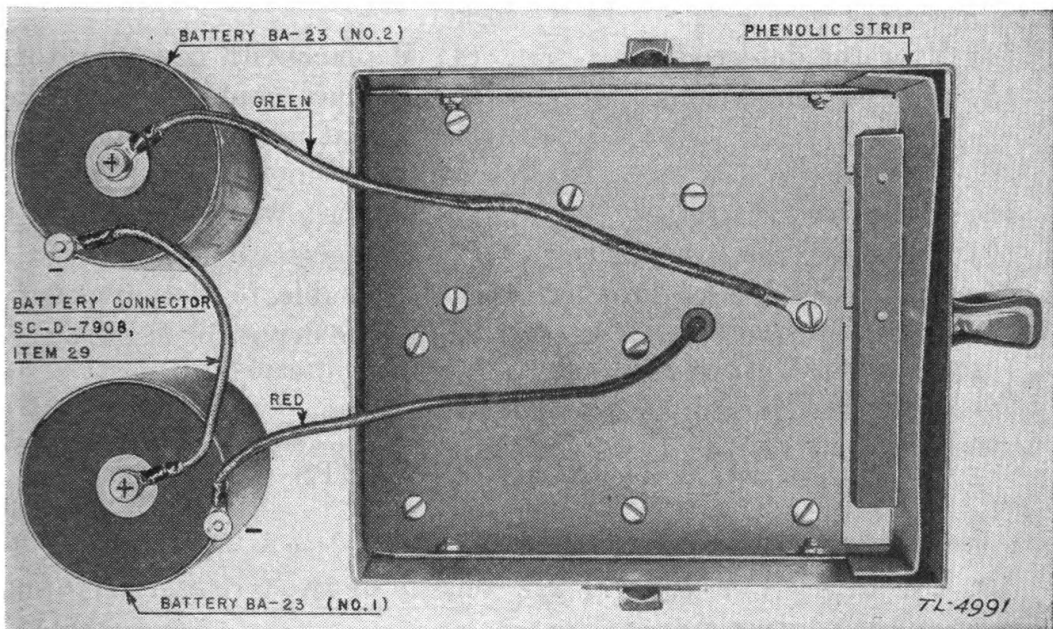

FIGURE 3.—Converter M-222—showing installation of batteries.
b. Battery installation.—Converter M-222 requires two Signal Corps batteries BA-23 connected in series. These must be installed as follows: unfasten the two catch fasteners which hold the left cover to the box. (See figs. 3 and 11.) To connect the two batteries to converter M-222, proceed as follows, using a standard dry cell battery connector, which is a piece of green wire 5 inches long with a terminal lug on each end. The battery connector is packed inside the left cover and is fastened to the spring clips. Note the polarity of terminals on the battery. The *outside* terminal is negative. Unscrew the knurled nut on positive (center) terminal on battery No. 1 (as shown in fig. 3) and place one connector terminal lug over the screw on that battery terminal. Replace the knurled nut and fasten securely. Con-
nect the other connector terminal lug to the negative (outside) terminal on battery No. 2 (as shown in fig. 3) in the same manner. Connect the green wire (which has one end grounded to the chassis) to the positive (center) terminal on battery No. 2. Connect the red wire (which has one end connected to the switch) to the negative (outside) terminal on battery No. 1. Place the batteries in the box with the terminals toward the fibre insulator across the top. Push the batteries toward the bottom of the box, so that they fit below the phenolic strip which is mounted in front of the insulator. Replace the cover and fasten catch fasteners. The spring clips mounted on the cover will hold the batteries firmly in place.